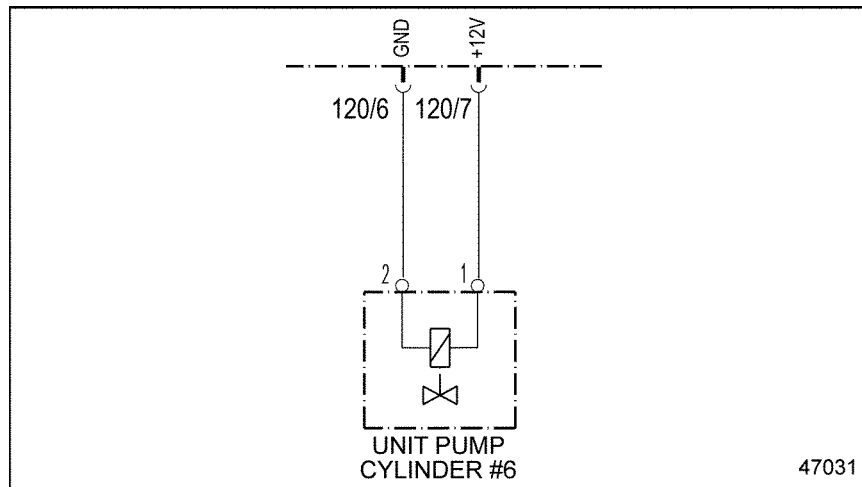

Figure 49-2 Electronic Unit Pump #6
3. Disconnect pins 1 and 2 of Electronic Unit Pump #6. See Figure 49-2.